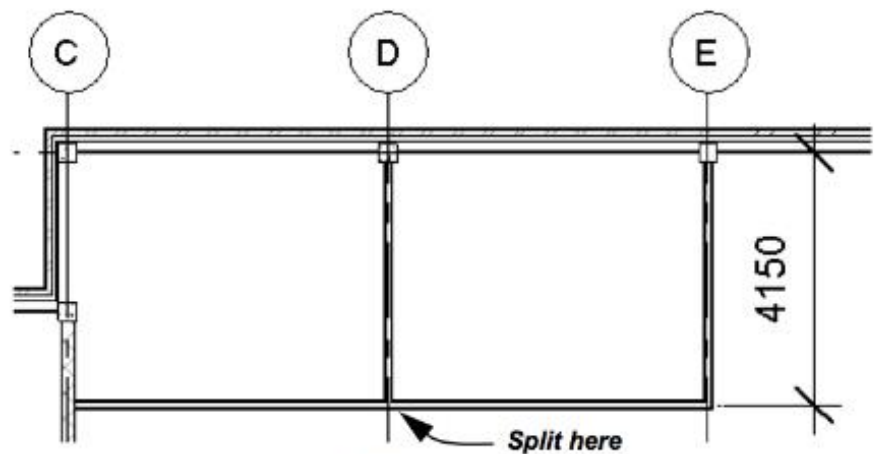

Figure 4–27
3. Draw the walls shown in Figure 4–27.
5. Click the horizontal wall at the point shown in Figure 4–27.